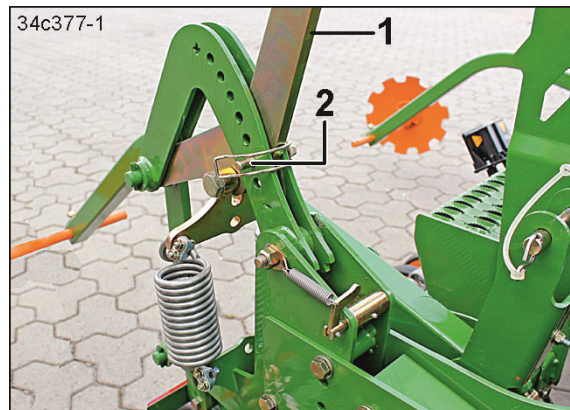

Fig. 186
2. Briefly pull on the lever (Fig. 186/1) and remove the tube clip (Fig. 186/2).